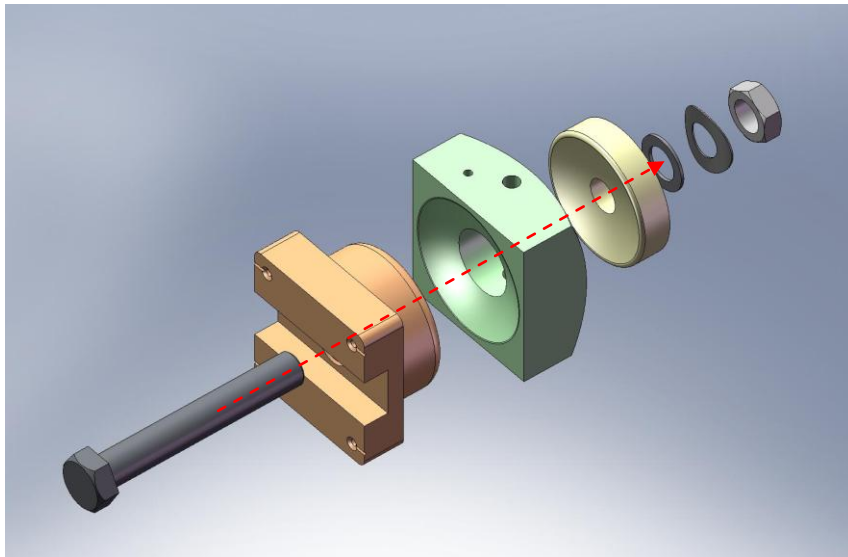
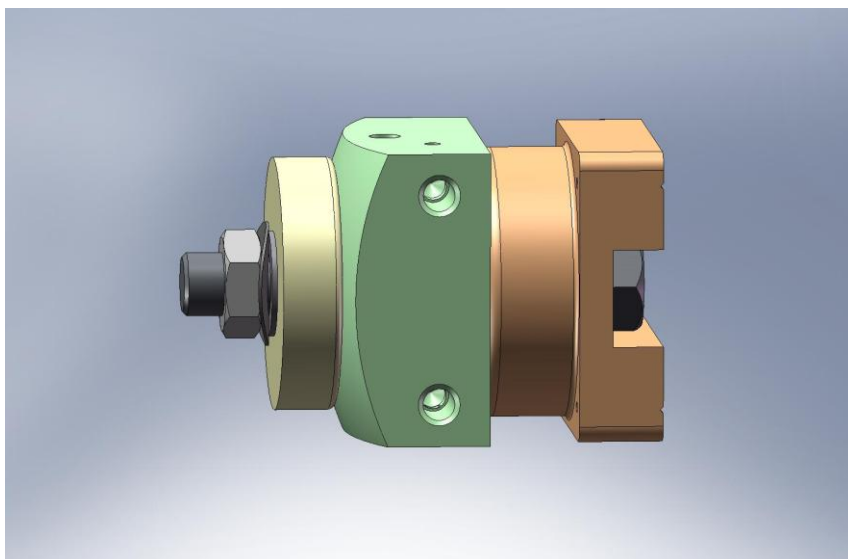

Figure 3.36. Exploded view of sensor spherical mount. This is a sub-assembly of the Position Sensor Assembly (D071464).
Figure 3.37. Assembled spherical mount. Roughly align Base to Mount, so sides are parallel to one another. Tighten jam nut until assembly is rigid.
- Repeat preceding steps for all (6) **Position Sensor Target Assemblies**.
- Assemble spherical mount, as shown in Figure 3.36 and Figure 3.37. Slide a hex head cap screw through the **Sensor Head Base** (D071161), **Sensor Head Mount** (D071163), and **Sensor Head Washer** (D071162), in that order. Place washers over exposed end of screw, and tighten nut until assembly is rigid. Repeat for all (6) **Position Sensor Assemblies** (D071464).